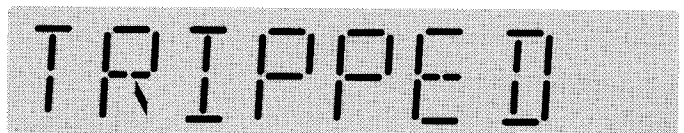

Figure 4-23 Tripped Alarm Display
- Step 10:** Use the **Escape** pushbutton and **Tripped** will appear in the **Function Display** blinking (Figure 4-23). This indicates that alarm infor-